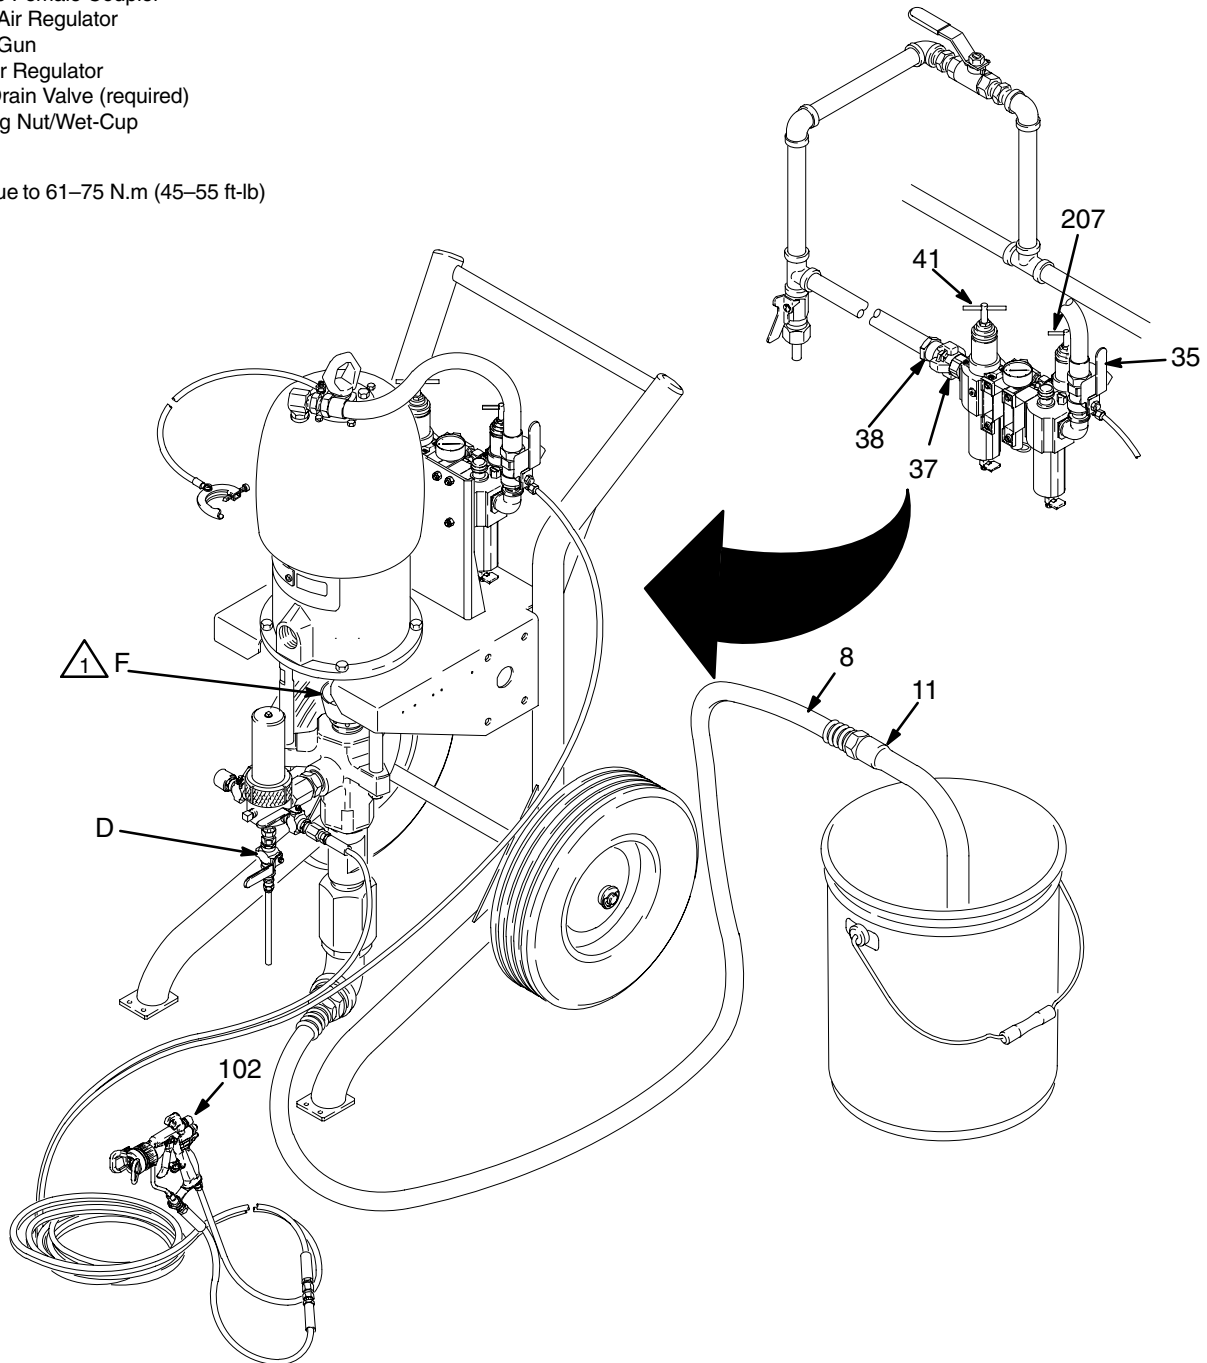

Fig. 1
Before starting, fill the packing nut (F) 1/3 full with Graco Throat Seal Liquid (TSL) or compatible solvent. See Fig. 1.
1. See Fig. 1. Remove the tip guard and spray tip from the gun (102). See the gun instruction manual.
2. Close the air filter/regulator (41), gun air regulator (207), and bleed-type air valves (B, 35).
3. Close the fluid drain valve (D).
4. Engage the air line coupler (38) with the mating coupler (37) attached to the air filter/regulator (41) inlet and twist with a wrench to lock.
6. Place the suction tube (11) into the fluid supply container.
7. Open the fluid shutoff valve (9).
8. Open the bleed-type air valves (B, 35) and the gun air regulator (207).
9. Hold a metal part of the gun (102) firmly to the side of a grounded metal pail and hold the trigger open.
10. Slowly open the air filter/regulator (41) until the pump starts.